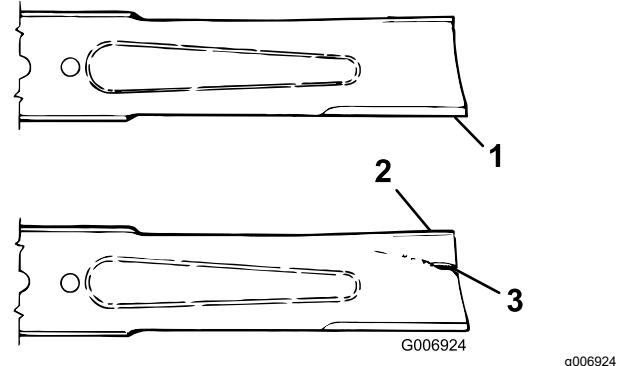

Figure 77
3. Examine the cutting ends of the blade carefully, especially where the flat and curved parts of the blade meet (Figure 77).
4. If wear is noticed (Figure 77), replace the blade; refer to Inspecting the Blade Plane (page 70).
If the blade is allowed to wear, a slot will form between the sail and flat part of the blade (Figure 77). Eventually a piece of the blade may break off and be thrown from under the housing, possibly resulting in serious injury to yourself or bystanders.